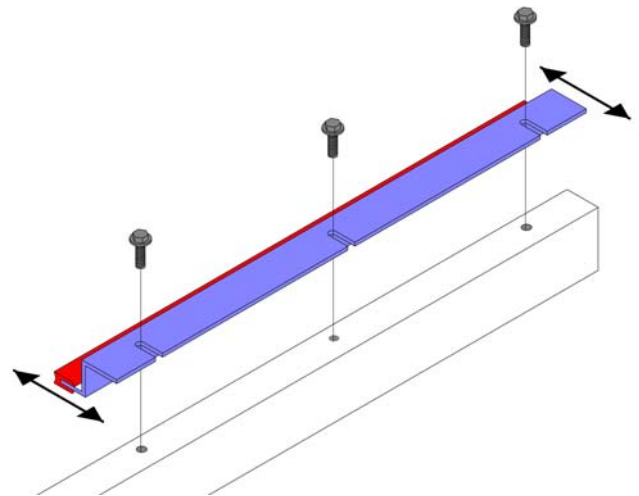

Figure 21
- Middle seal Z-plates (Figure 21) depending on intended air flow distribution attach either to the horizontal or the vertical middle spar with the supplied cutting screws.